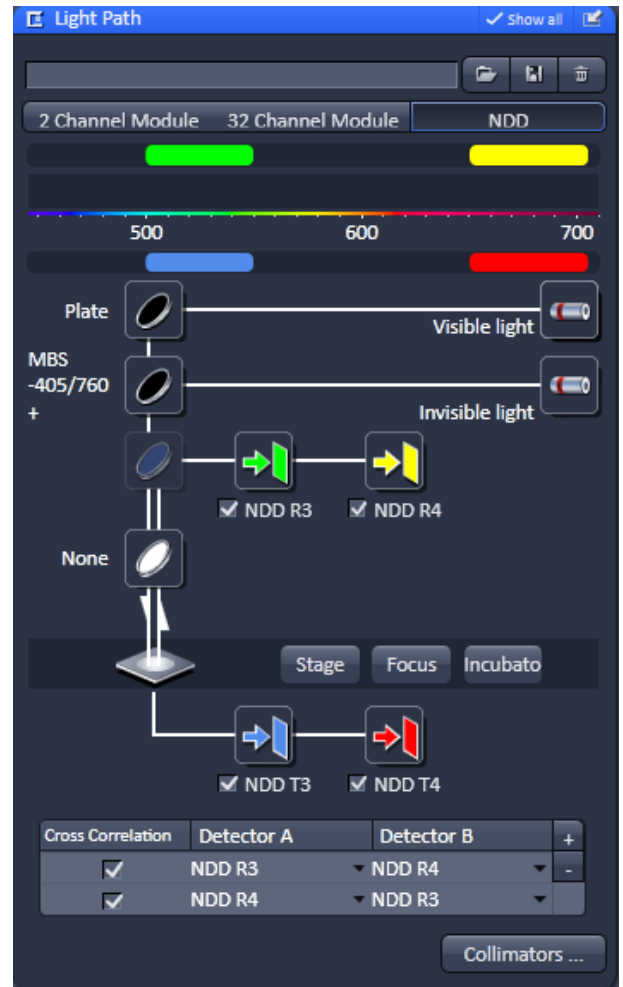

Fig. 237 System Configuration tab - Light Path tool opened for the BiG on NDD port of LSM 710
- Click on the MBS icon to open a list of dichroics (Fig. 237).